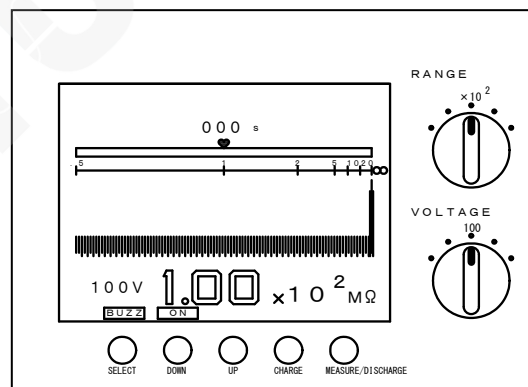

Fig. 6.6.3
- 10) Using the UP and/or DOWN switches, set ON or OFF for the buzzer. (Fig. 6.6.3)